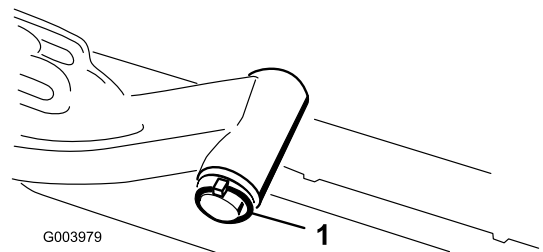

Figure 11
- A. Remove the lynchpin and washer securing the lift-arm-pivot shaft to the lift arm and slide the lift-arm-pivot shaft out of the lift arm (Figure 11).
- C. Insert the lift-arm shaft into the lift arm and secure it with the washer and lynchpin (Figure 11).